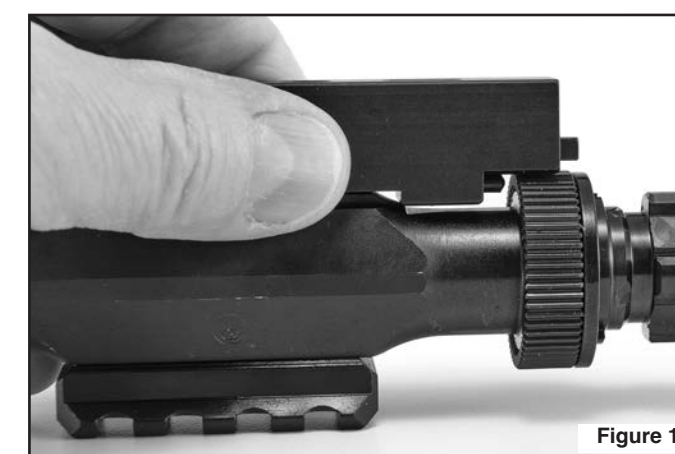

Figure 11
2. Position the takedown block assembly on the barrel assembly so that the detent plunger makes contact with the adjustment ring. (See Figure 11.)